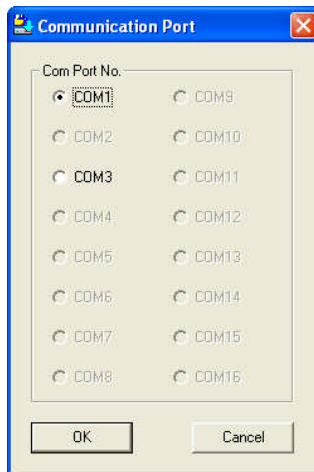

Figure 29 Com Option box
- To change the Com Port from the Options menu choose Com Port. The Com Port Dialog box appears. See Figure 29.